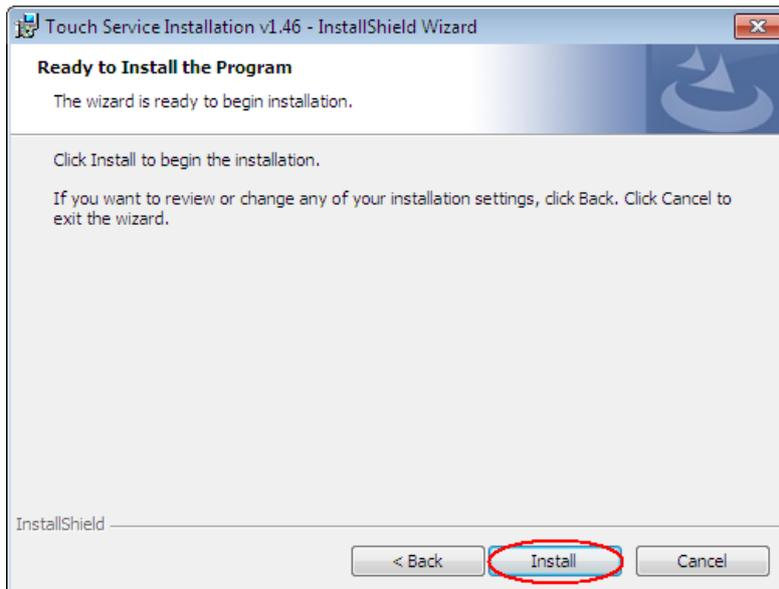

Figure 3-4
3) Start the installation by clicking "Install" (Figure 3-4). When completed, click "Finish" and exit. Check "TouchService.exe" in the finishing interface to allow service program to run automatically after the installation is finished. Otherwise, it won't start automatically.